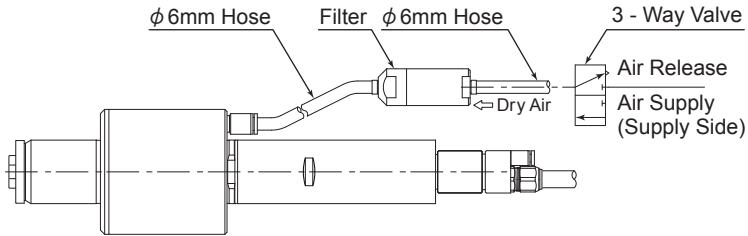

Fig. 3
- (1) Connect the provided ϕ 6mm air hose with filter and 3-way valve to Air Inlet Joint shown in Fig. 3.
- (2) Supply clean air from air compressor through air filter or air dryer to the 3-way valve at the air pressure : 0.6MPa (87psi).